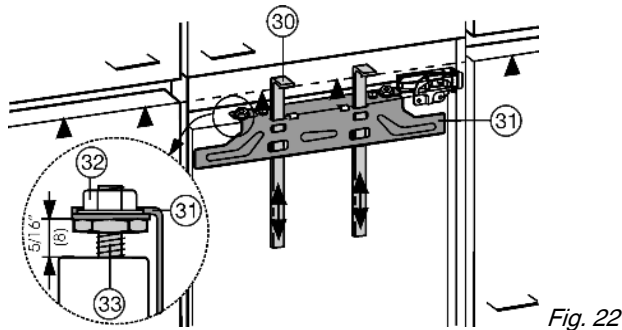

Fig. 22
**The fitting aids Fig. 22 (30) are required for both doors. You must therefore fit the unit doors one after the other.**
- ▶ Raise the fitting aids Fig. 22 (30) to the unit door height. Bottom stop edge ▲ of fitting aid = top edge of unit door to be fitted.